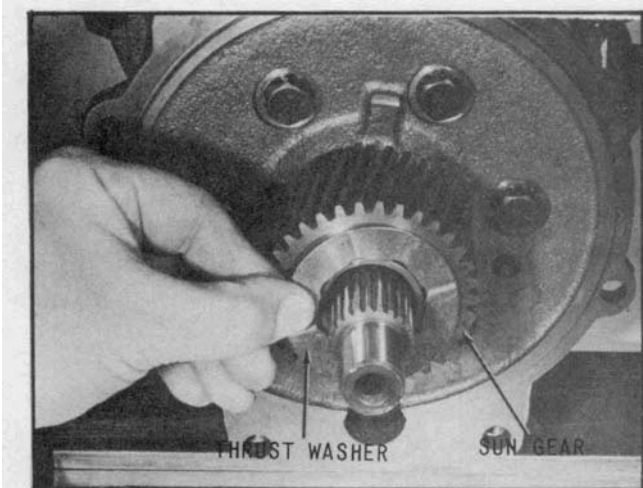

Fig. 20 Installing Sun Gear Thrust Washer
15. Install the thrust washer on hub of sun gear as shown in (Fig. 20).